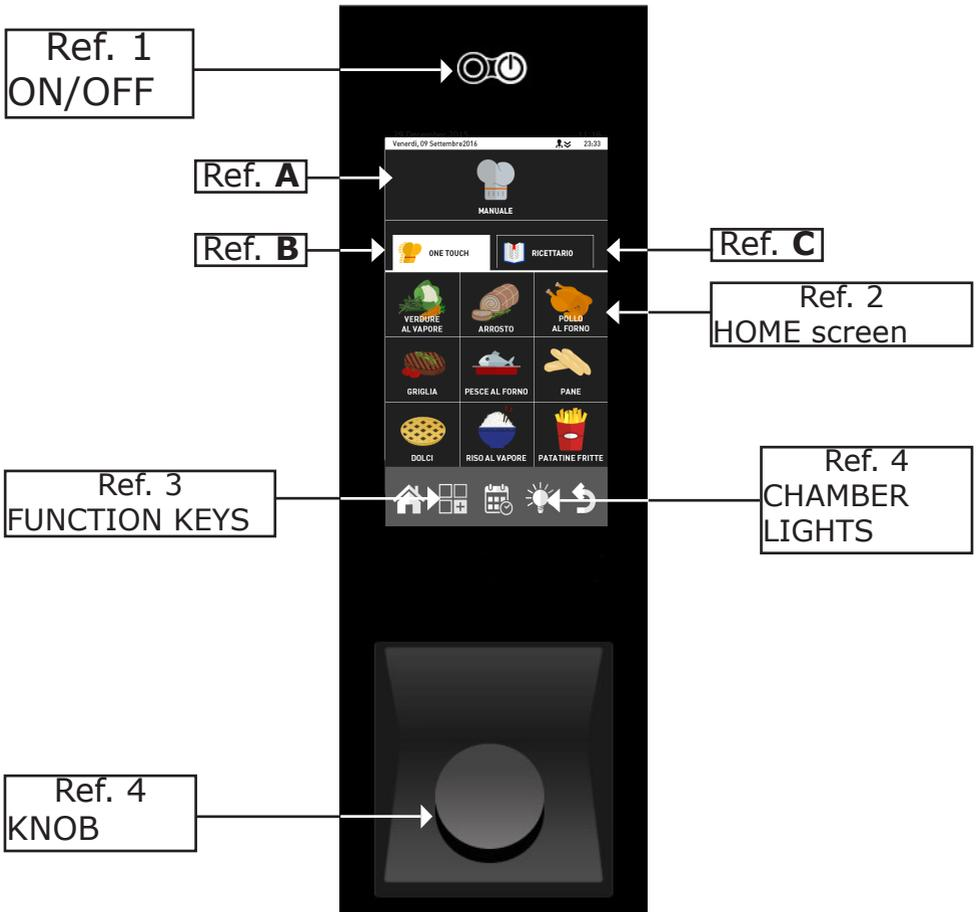

Fig. 13
Switch the oven on by pressing the "ON/OFF" key **Ref. 1 Fig.13**.
The lights in the cooking chamber turn on when pressing the key(**Fig.13 - Ref.4**) and turn off automatically after 45 seconds if they are not turned off beforehand by pressing the key again.
Turn the oven on by pressing the "ON/OFF" key (ref.1 Fig.13), the initial "HOME" screen will appear on the display (Ref. 2 Fig. 13).